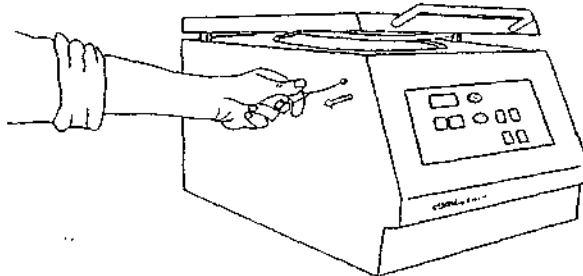

figure 15
- The lid can then be opened (see figure 15).